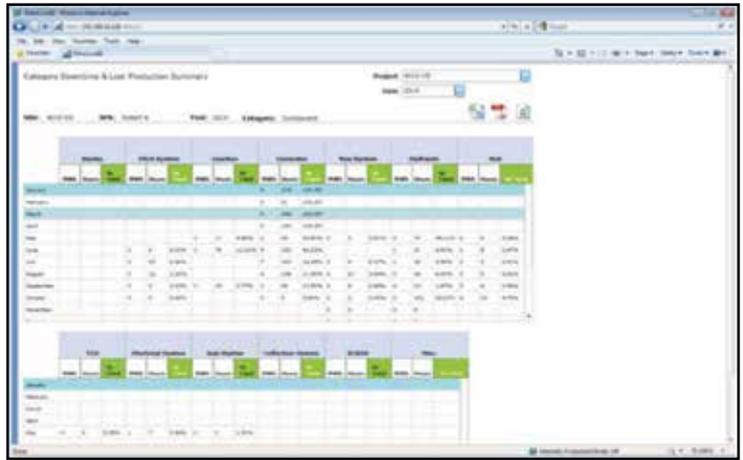

Figure 8: Screenshot—NERC GADS Reporting.
- **NERC GADS Reporting**—The application should be programmed to generate the reporting requirements specified by the North American Electric Reliability Corporation (NERC) Generating Availability Data System (GADS). It allows users to gather and verify event and performance data, as well as analyze (Figure 8) current and historical event and performance data, including energy availability, outages, and demand factors.